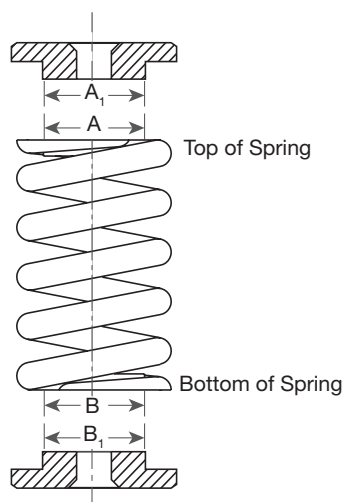

Figure 34: Spring Allowed Tolerance
- The maximum clearance between A and A₁ and between B and B₁ (see Figure 34) is more than:
- .031" (.79 mm) for springs with an inner diameter (ID) of less than 4" (100 mm).